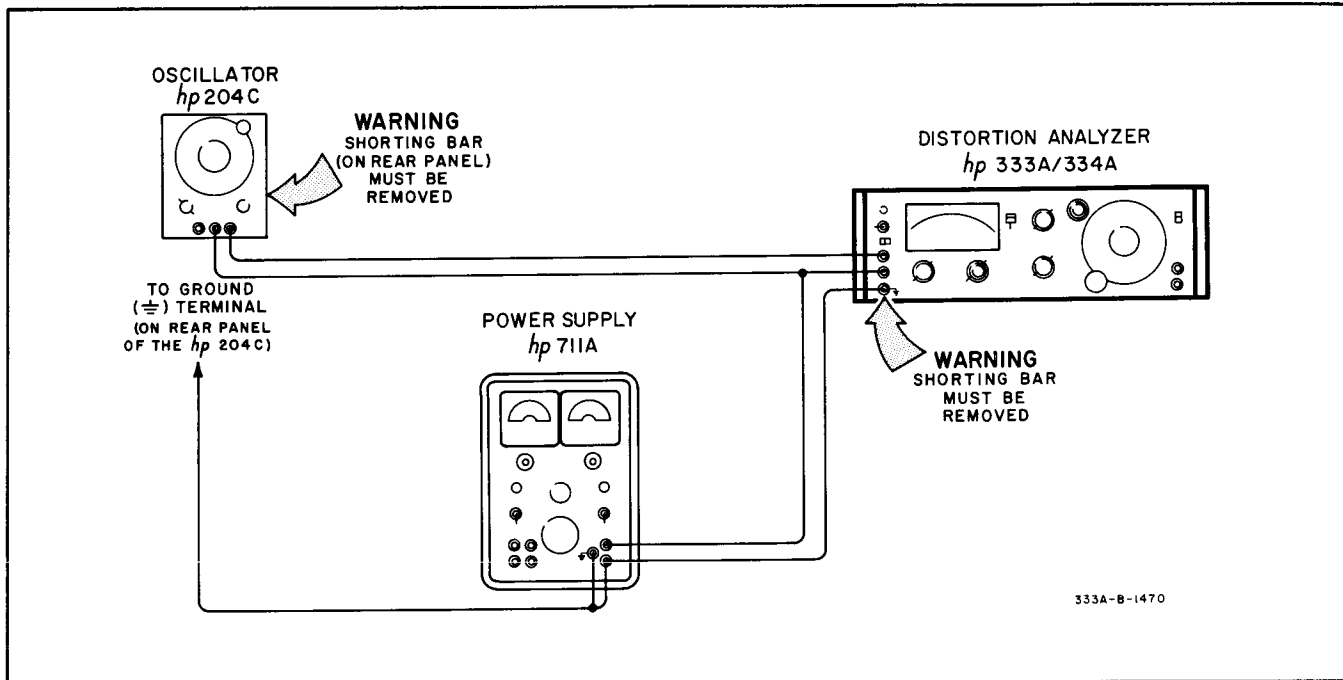

Figure 5-5. DC Isolation Check
- a. Connect test equipment to 333A/334A as shown in Figure 5-5.